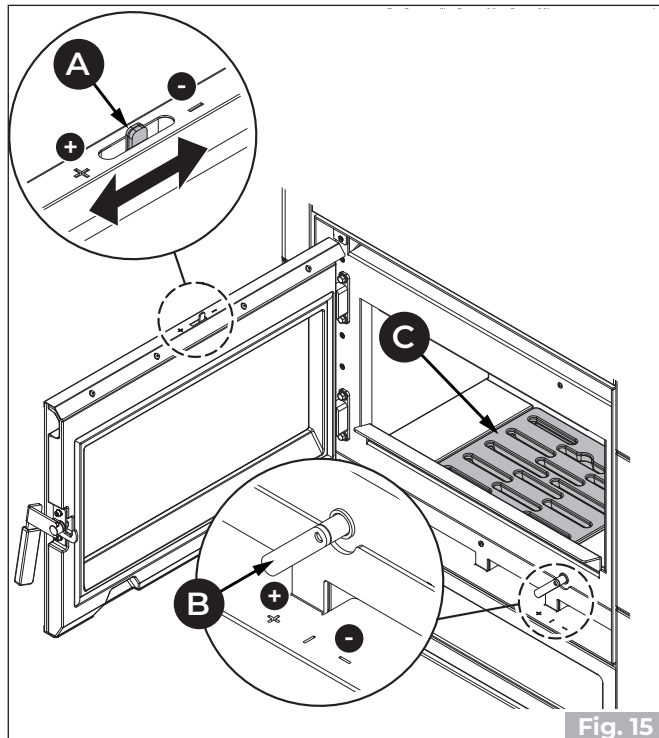

Fig. 15
- Open the primary air (**A**) and glass cleaning (**B**) regulator to the maximum (+) (**Fig. 15**).
- Carefully place the pieces of wood in fire box grate (**C**) (**Fig. 15**).
Combustion is adjusted using the air regulator (**A**) (**Fig. 15**). Turning it toward the symbols (+) or (-) a higher or lower flow of combustion air will be obtained and consequently a faster or slower combustion will result.